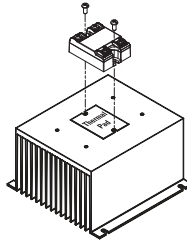

fig. 1 SSR mounted on HS053 heat sink (A)
- ◆ SSR mounting slots have a diameter of 0.2 in (5.0 mm). Two screws are needed to mount the SSR onto heat sink (See fig. 1). Mounting screws are sold separately as HK1 and are suitable for all Crydom heat sinks. Otherwise, recommended screw size is 8-32 (UNC standard) or M4 (metric) depending on the heat sink model, see product datasheet. Choose screw length considering the mounting surface hole depth and that SSR baseplate thickness is 0.125 in (3.2 mm).